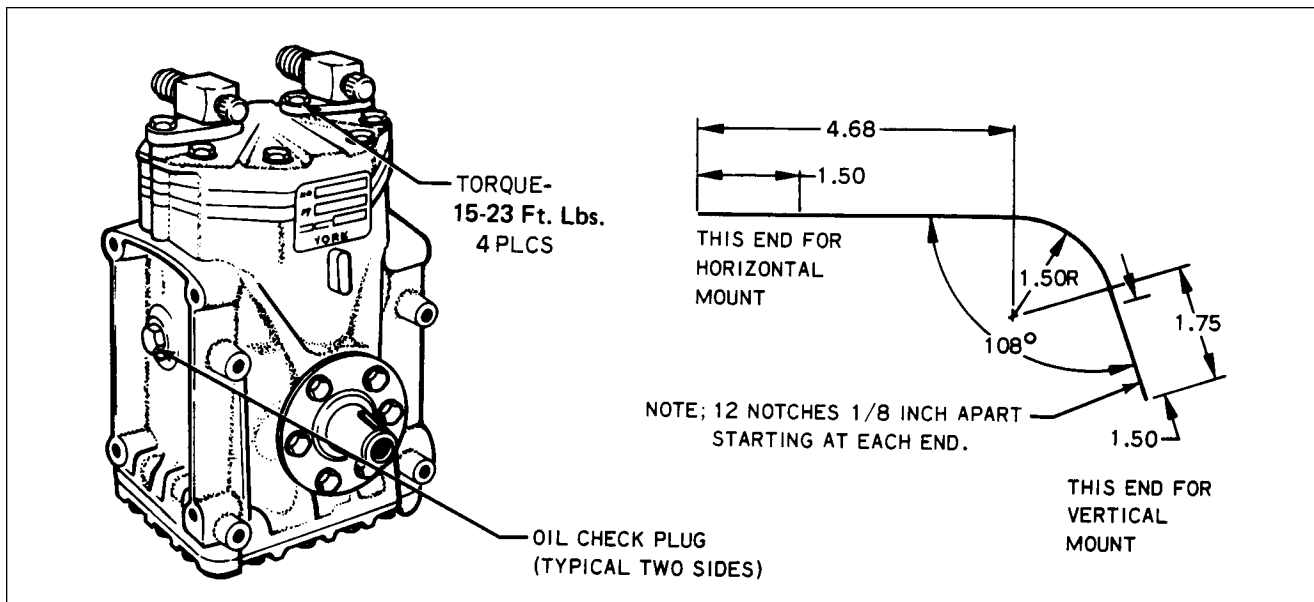

Figure 14-9. York Compressor and Fabricated Oil Dipstick (PA-28R-201)
2. Fabricate an oil dipstick. (Refer to Figure 14-9.)
4. Before inserting the dipstick, the crankshaft Woodruff key should be located in the up position. (The front face of the compressor clutch is marked with a stamped "K" indicating the key position.) The oil level should be measured from the lowest point in the crankcase. Use the long end of the dipstick. (See Figure 14-9.)